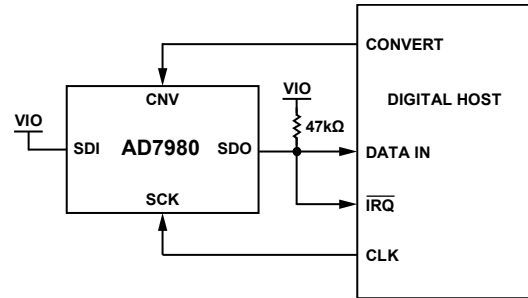
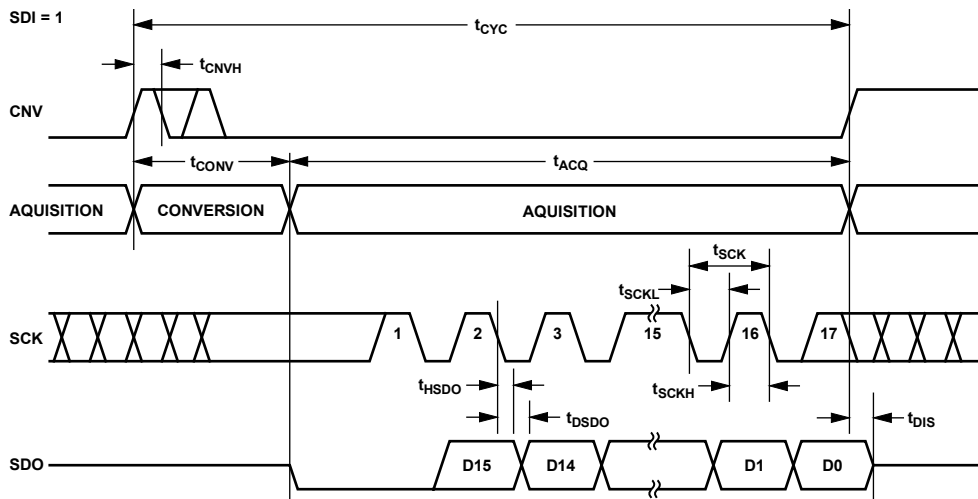
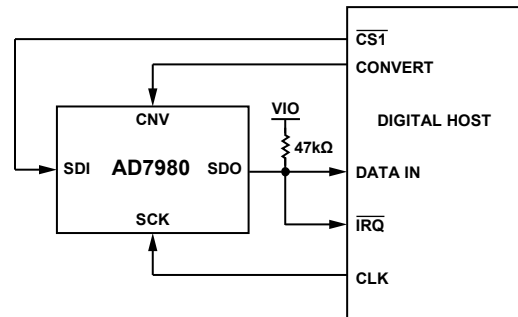
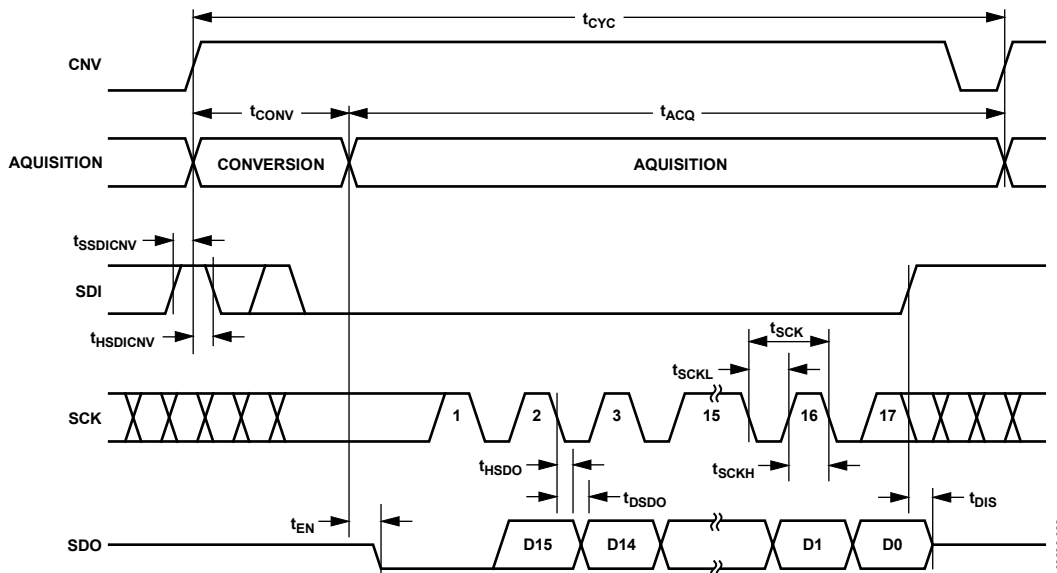

Figure 33. 3-Wire  $\overline{CS}$  Mode with Busy Indicator Connection Diagram (SDI High)
Figure 34. 3-Wire  $\overline{CS}$  Mode with Busy Indicator Serial Interface Timing (SDI High)
Figure 37. 4-Wire CS Mode with Busy Indicator Connection Diagram
Figure 38. 4-Wire CS Mode with Busy Indicator Serial Interface Timing
- In the  $\overline{\text{CS}}$  mode if CNV or SDI is low when the ADC conversion ends (see Figure 34 and Figure 38).
The connection diagram is shown in Figure 33, and the corresponding timing is given in Figure 34.
The connection diagram is shown in Figure 37, and the corresponding timing is given in Figure 38.